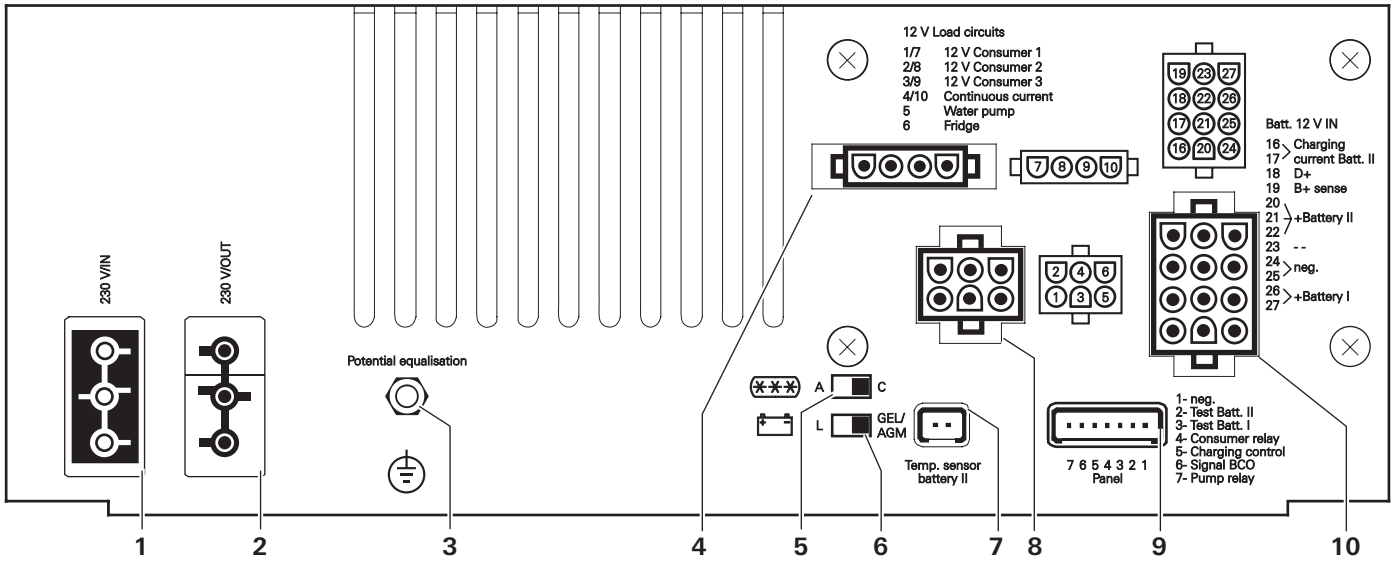

Fig. 4: Device front / connections
The output to the consumers (fig. 4, pos. 4 and 8, contact 1 to 3 and 7 to 9) only carry +12 V, if the user relay has switched on. The consumer relay only switches on if +12 V control voltage is applied to contact no. 4 of the 7 pole plug. User circuits 1 / 7 and 2 / 8 are each protected with a 10 A fuse, and user circuits 3 / 9 are protected with a 15 A fuse.
The freshwater pump (contact 5) is supplied via the pump relay. It is protected with a 5 A fuse. This electrical circuit is controlled from your panel via the contact no. 7 of the 7-pin connector (fig. 4, Pos. 9).
Changeover switch (fig. 4, pos. 5) in A – Absorber operation position. When the engine is running, the refrigerator is supplied with power via the generator of the vehicle. After the engine is switched off, the refrigerator relay disconnects the refrigerator from the supply battery. The control action is via the cable from the D+ of the generator. Thus, operating the refrigerator at 12 V is only possible during journeys. When the vehicle is parked, the refrigerator can only be run on gas or mains voltage. This prevents the supply battery running down. This circuit (contact 6) is protected by a 15 A fuse.
Changeover switch (fig. 4, pos. 5) in C – compressor operation position. The refrigerator is supplied via the permanent positive when the main switch is turned on at the control panel.